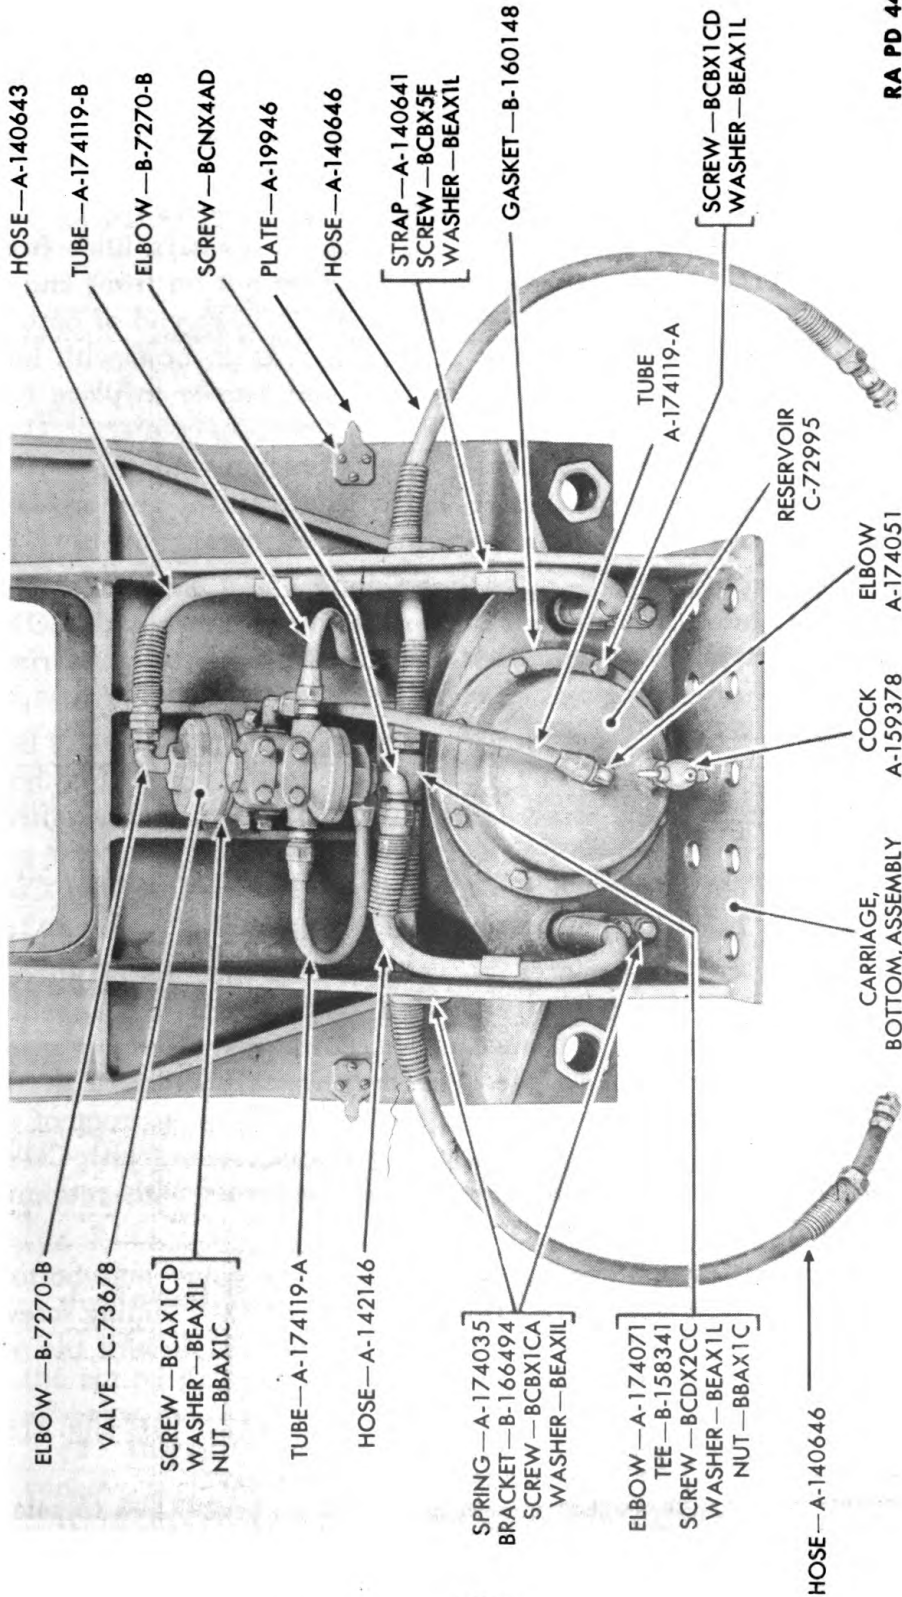

Figure 228—Carriage Air Lines, Relay-emergency Valve, and Air Reservoir Group
b. Install Relay-emergency Valve, Air Reservoir, Air Hoses, and Tubes (fig. 228).
(8) Check all tube and hose connections for correct installation and tightness (fig. 228).